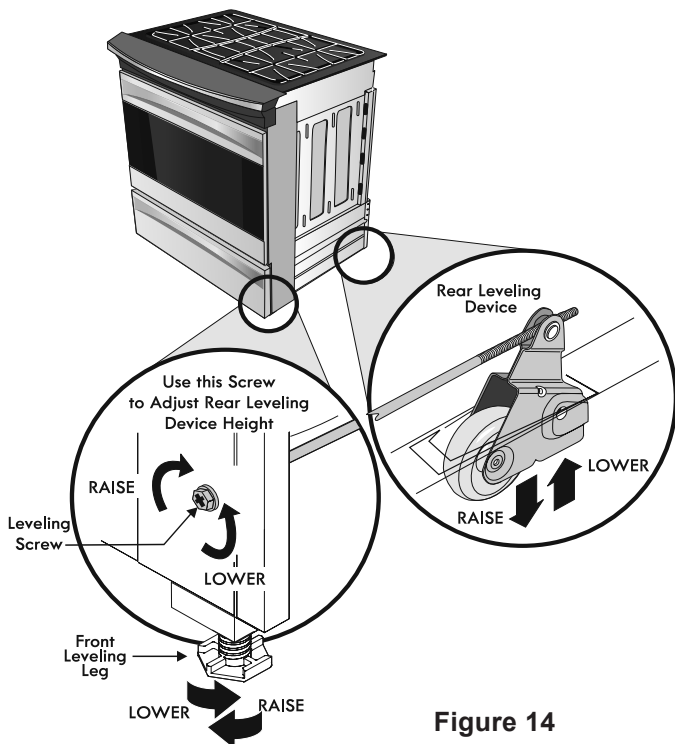

Figure 14
2. Adjust the appliance legs as follows until the underside of the cooktop (or cooktop glass) surface is sitting level on the countertop (Figure 14).